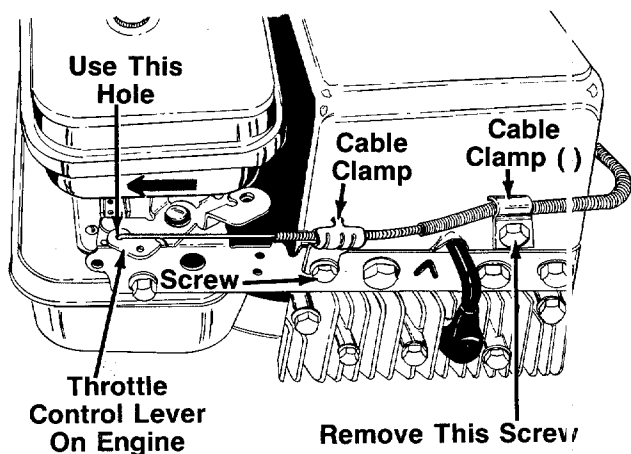

FIGURE 8.
13. Using a 7/16" wrench, remove the screw on the engine shown in figure 8.
14. Remove the screw on the cable clamp shown in figure 8. Slip the control casing under the clamp. Replace the screw, but do not tighten (cable must still move freely beneath the clamp).
15. Push the throttle control lever on the engine to the full open position (as far toward the **outside** of the unit as it will go) as shown in figure 8. Tighten the screw to secure the throttle control cable in this position.